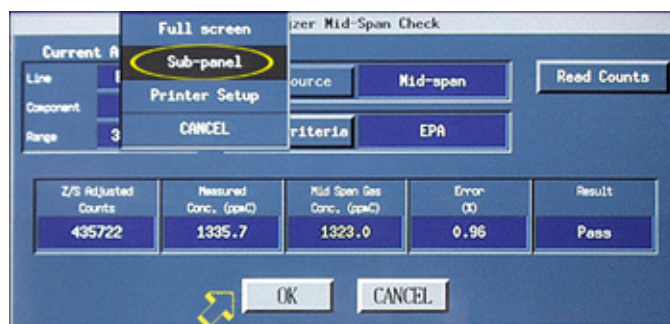

Figure 49
- 161 Click on “Sub-panel.” See the circle in Figure 49. Click inside the sub-panel. A hardcopy of the sub-panel will print on the control room printer. Retain for attachment to the Analyzer Linearization Data sheet.
See the arrow in Figure 49.